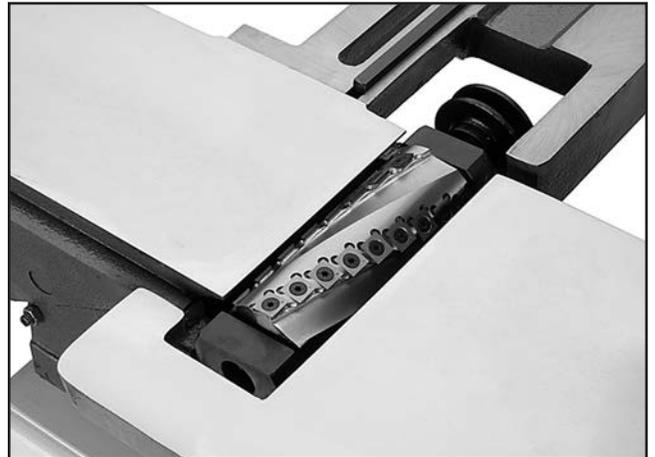

Figure 6. Example of helical cutterhead installed.
- Install cutterhead with cap screws and lock washers previously removed (see **Figure 6**).